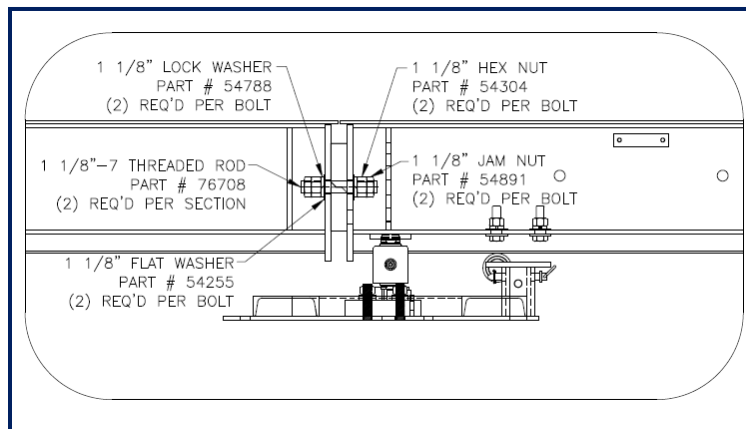

Figure 12
9. Install module connection bolts. Insert the 1 1/8" – 7 threaded rods into the module connection gussets and secure with the flat washer, lock washer, hex nut and jam nut as indicated in the illustration. See Figure 12.